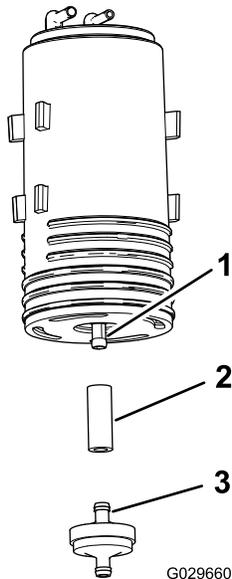

Figure 48
4. Remove the carbon-canister filter and the short section of hose from the lower fitting of the old carbon canister (Figure 48).
5. Install the hose onto the lower fitting of the new carbon canister (Figure 48).
6. Insert the fitting of a new carbon-canister filter into the hose (Figure 48).